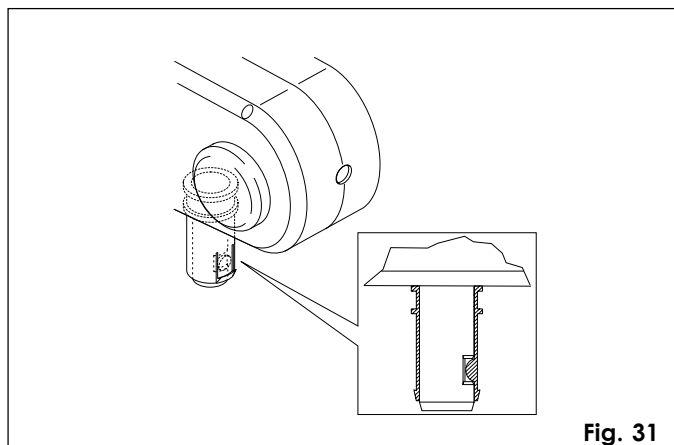

Fig. 31
- Re-position the operator on the front fitting so that the groove of the pin coincides with the mechanical stop on the bush (fig. 31).